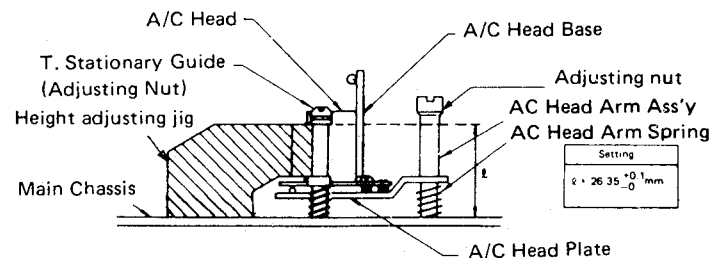

Figure 23.
- 1) Set the guide height adjustment jig on the main chassis A, as shown in figure 23.